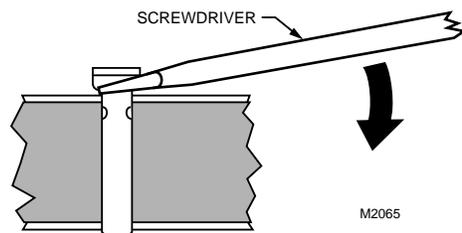

Fig. 7. Lifting range stop pin out of its slot.
3. Insert the range stop pin into the appropriate (cw or ccw) 60° slot. The range stop pin is clipped into its final position only after the pin passes through both actuator plates (see Fig. 6). The range stop pin should *snap* into position and not be removable by hand (see Fig. 7).
7. Insert the range stop pin into the appropriate (cw or ccw) 45° slot. The range stop pin is clipped into its final position only after the pin passes through both actuator plates (see Fig. 6). The range stop pin should *snap* into position and not be removable by hand (see Fig. 7).